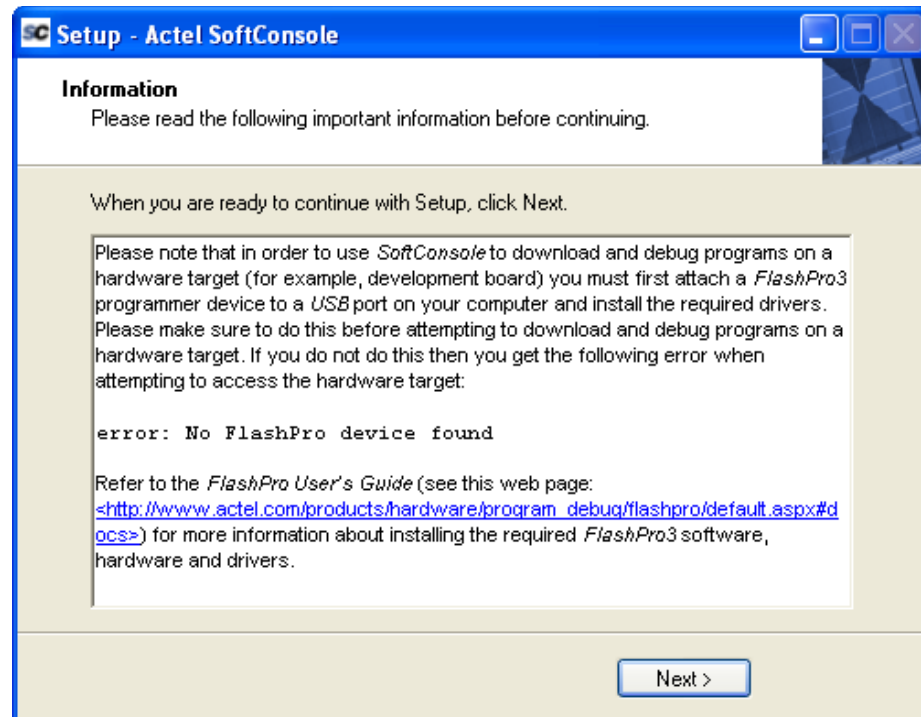

Figure 2-2 · SoftConsole Information Page
7. Click **Install** to complete the installation. During the installation, an information page appears (Figure 2-2). Click **Next**.